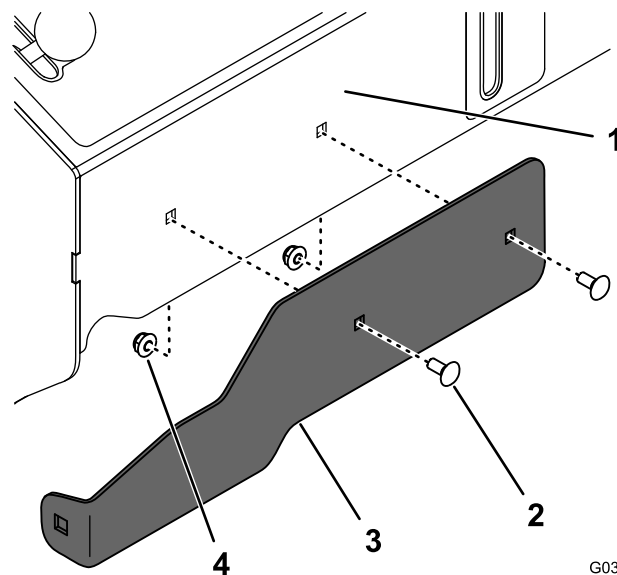

Figure 12
11. Loosely install the front mount bracket to the front of the control tower using 2 carriage bolts (1/4 x 5/8 inch) and 2 nuts (1/4 inch) as shown in Figure 12.